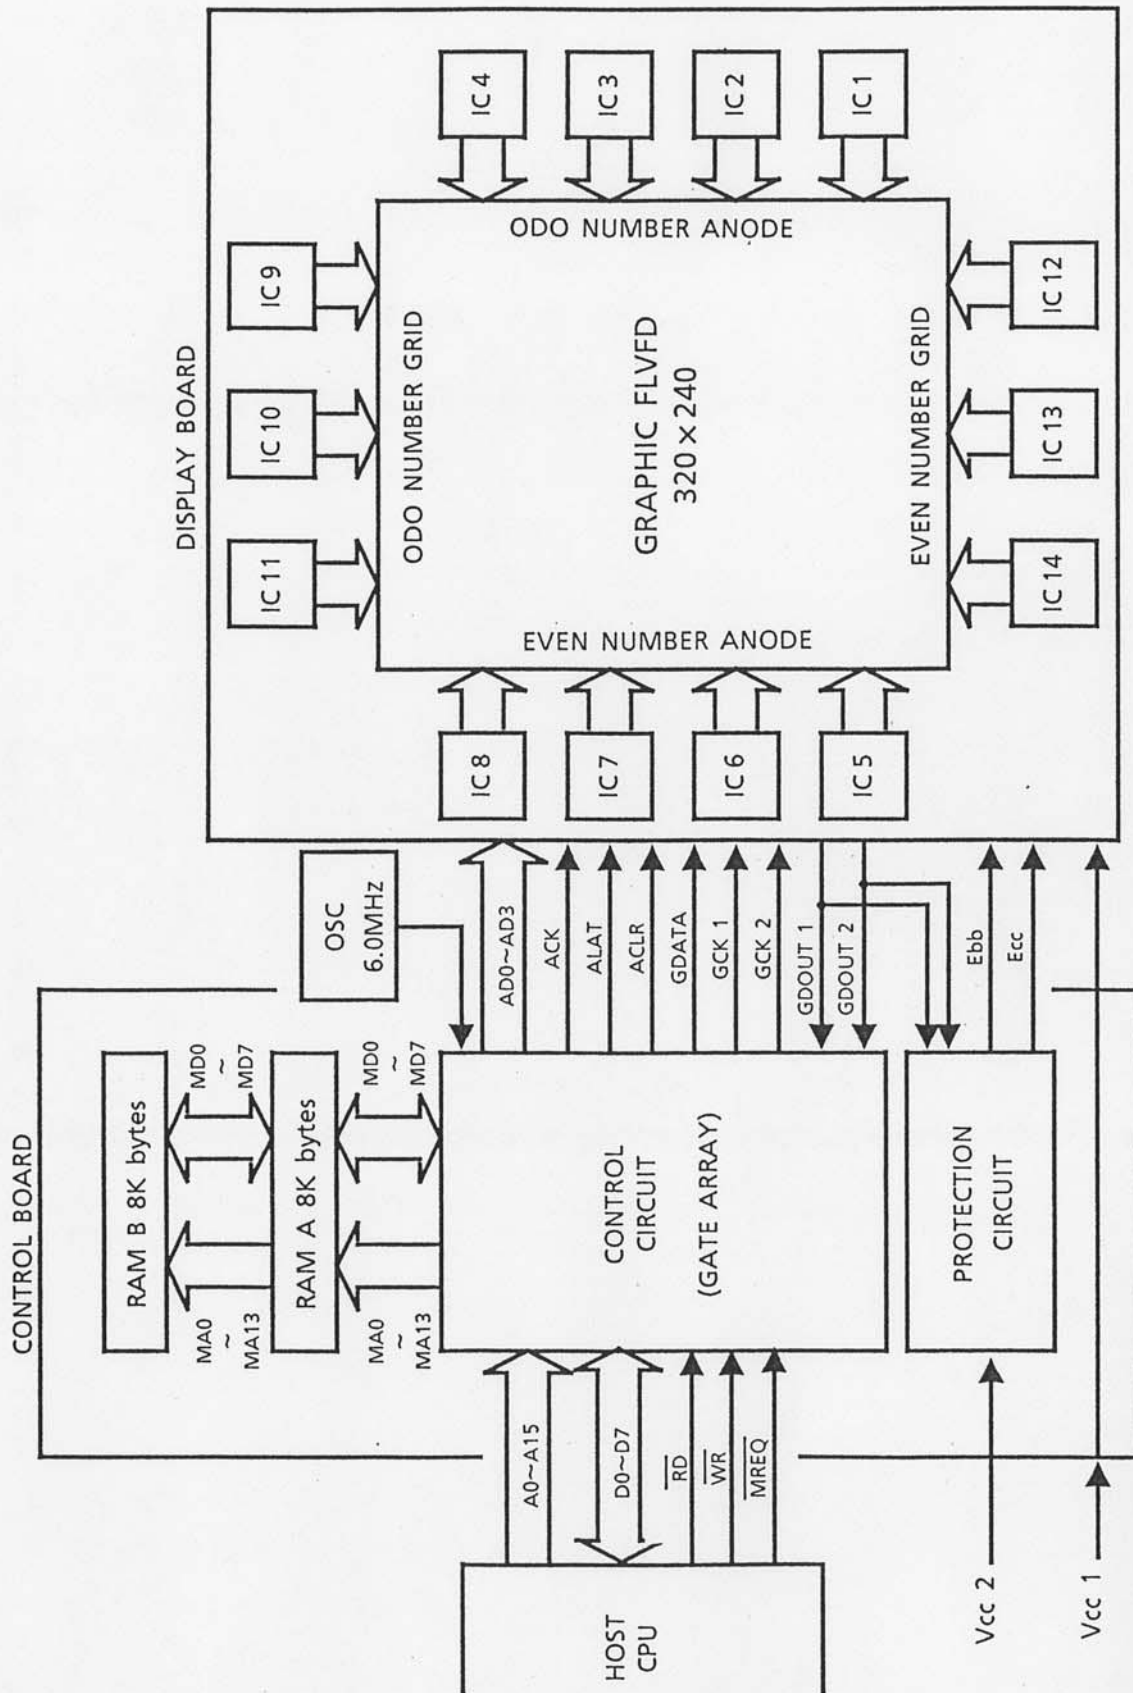

FIG.2 BLOCK DIAGRAM
4. CIRCUIT BLOCKDIAGRAM (FIG.2)